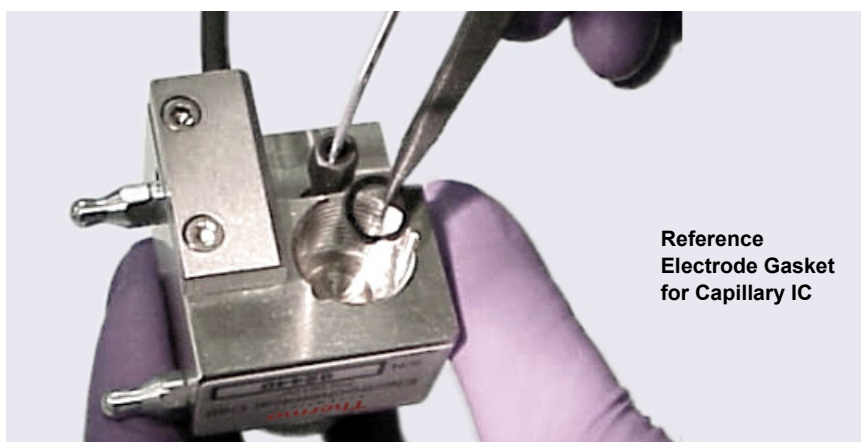

Figure 10-65. Reference Electrode Gasket for Capillary IC
2. Using tweezers, install the reference electrode gasket for capillary IC (P/N 072162) into the bottom of the reference electrode well (see Figure 10-65).